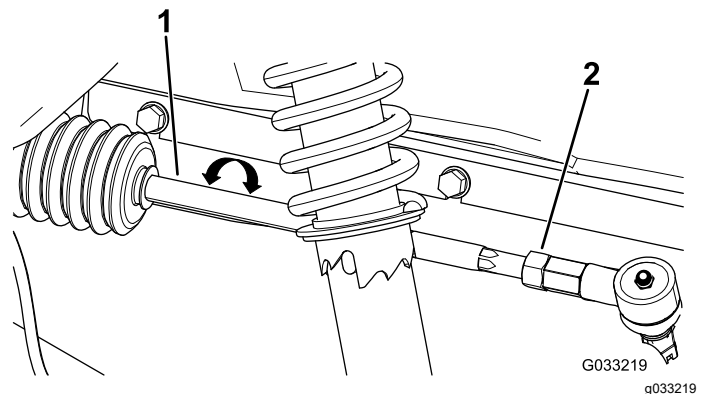

Figure 61
2. If the measurement does not fall within 0 to 6 mm (0 to 1/4 inch), loosen the jam nuts at the outer end of the tie rods (Figure 61).